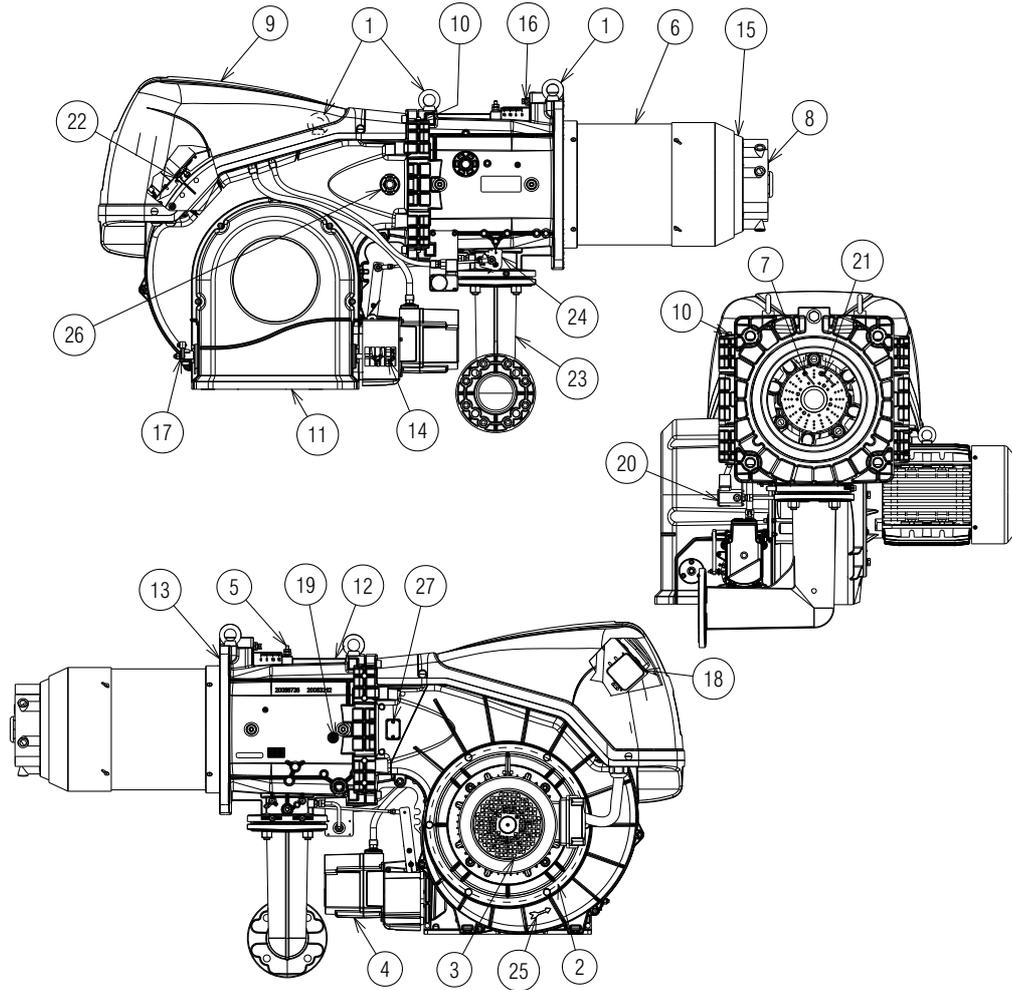

Fig. 5
- (1) Reference conditions: Room temperature 20°C - Gas temperature 15°C - Barometric pressure 1013 mbar - Altitude 0 m a.s.l.
(2) Pressure on the socket 5)(Fig. 5 on page 13) with zero pressure in the combustion chamber and at maximum burner output.
(3) Sound pressure measured in manufacturer's combustion laboratory, with burner operating on test boiler and at maximum rated output. The sound power is measured with the "Free Field" method, as per EN 15036, and according to an "Accuracy: Category 3" measuring accuracy, as set out in EN ISO 3746.